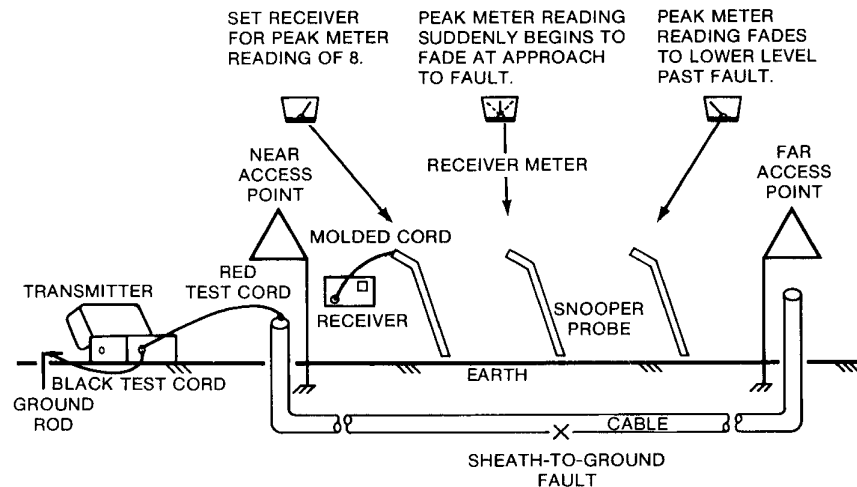

Figure 3-4.
3. Connect the black test cord clip to the ground rod (see Figure 3-4).
4. Plug the jack end of the red/black test cord into the TRACING TONE jack receptacle on the transmitter (see Figure 3-4).